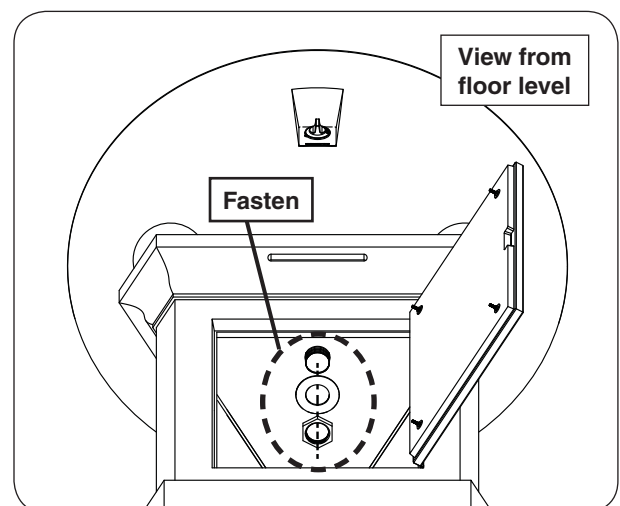

Fig. 27-2 Mount pedestal - fasten assembly
4. From within the pedestal, install the washer followed by the nut onto the conduit mount (that is protruding down into the pedestal). GENTLY tighten the 2 3/8" size nut using an adjustable wrench (or equivalent). See Fig. 27-2.